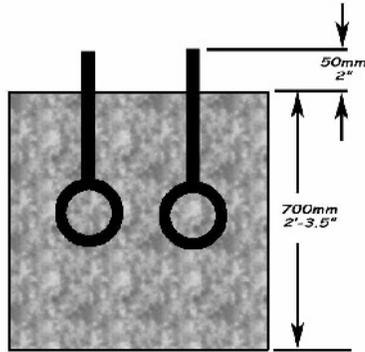

Figure 2
3. Fix the 4-foundation bolts onto the base plate with the M16 nuts. (The threads should be approximately 15mm (½ inch) out of nut) Refer to figure 2.